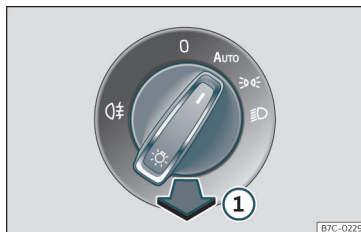

Fig. 88 Dash panel: lights control.
- **Turning on the rear fog light** (fog lamp symbol): pull the light switch fully out >>> Fig. 88 ① from position >>>, >>> or AUTO.